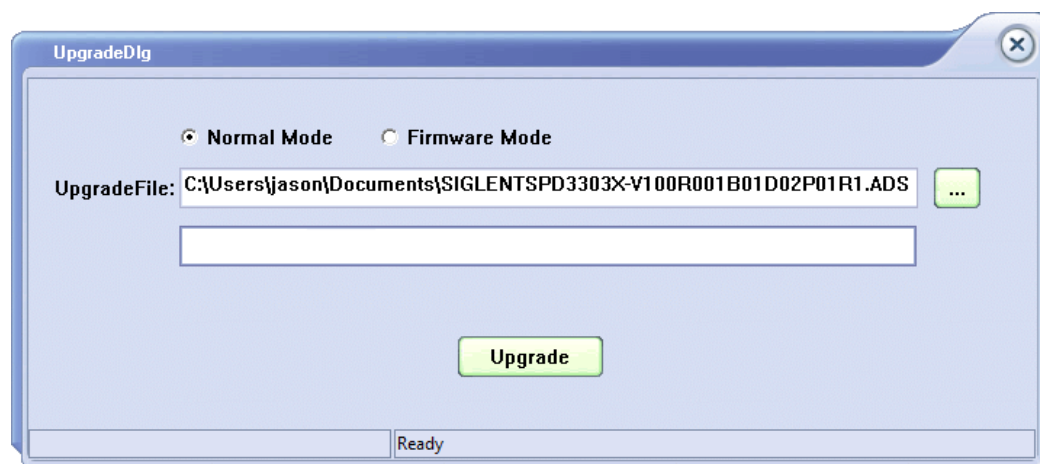
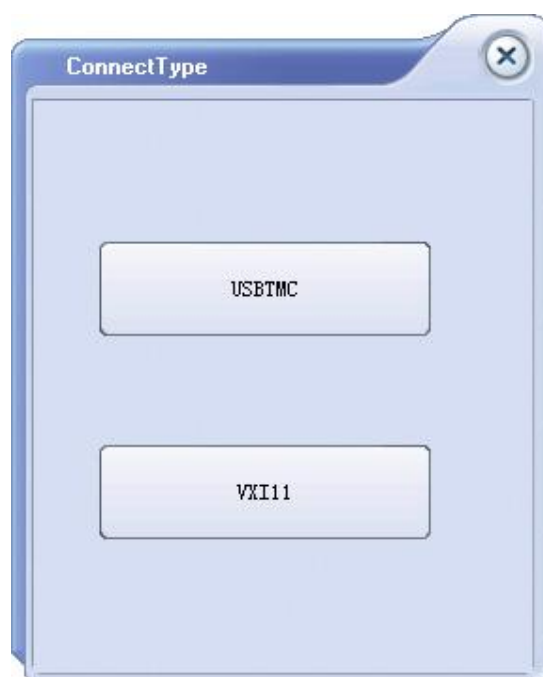

Figure 4
Figure 5
4. As it shows in figure 4, click “Upgrade”, a dialog will popup as it shows in figure 5 and then select the upgrade method—USB (USBTMC) or LAN (VXI11). The upgrade is finished when the progress bar complete and the instrument will run the version after upgrade.